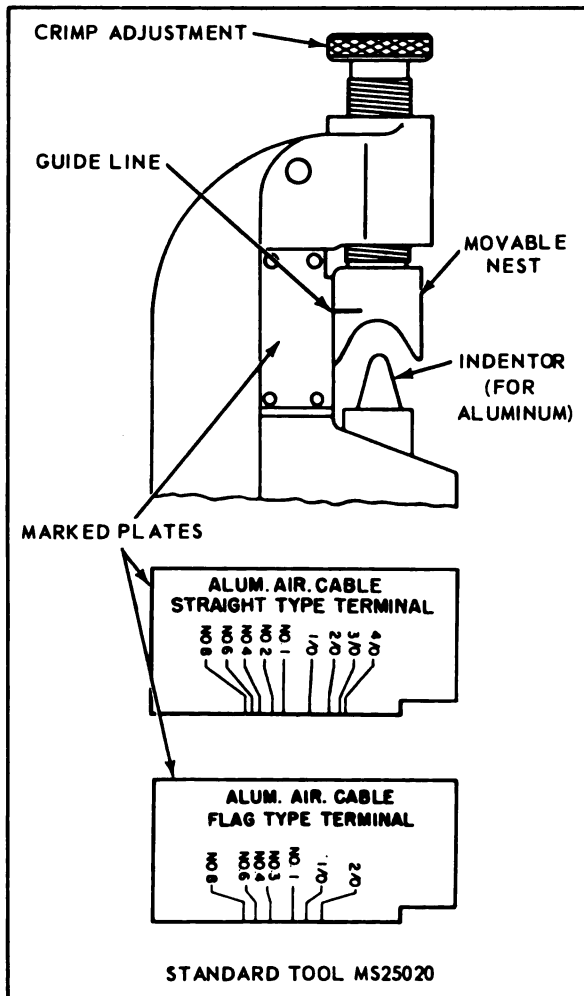

Figure 5-13. Tool-Hand Crimping-Aluminum Terminal Lugs
a. Set tool to proper crimping position for terminal lug size being crimped. This is done by moving nest by means of adjustment screw until guide line on nest is centered over line on marked plate corresponding to terminal lug size being crimped. See figure 5-13.